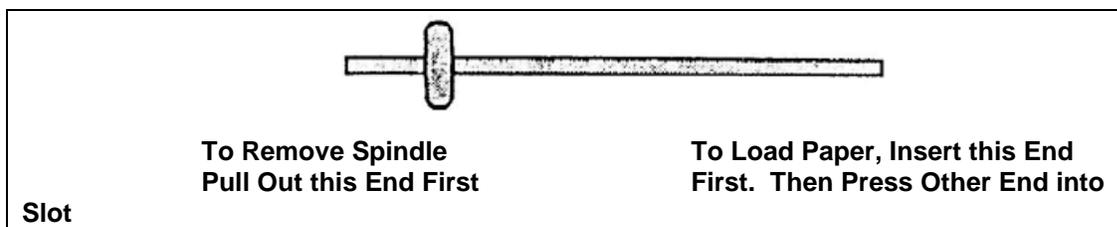

Figure 4-2. Printer Paper Installation
- f. Insert the paper spindle (figure 4-2) through the paper roll from the left side of the printer, with the spindle “Tee” head on the left side. The paper roll should be installed with the paper coming over the top of the roll away from the operator.